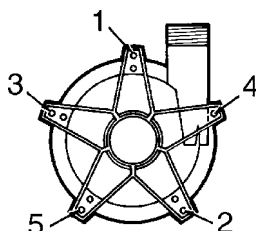

Figure 4
3. Install and lubricate the housing o-ring with a chemically compatible lubricant. Install the impeller housing. Align the discharge with the mounting holes on the housing, and insert the screws. Always use thread lubricant when installing new plastic screws. With a screwdriver, carefully tighten all 5 screws following the pattern shown in Figure 4.